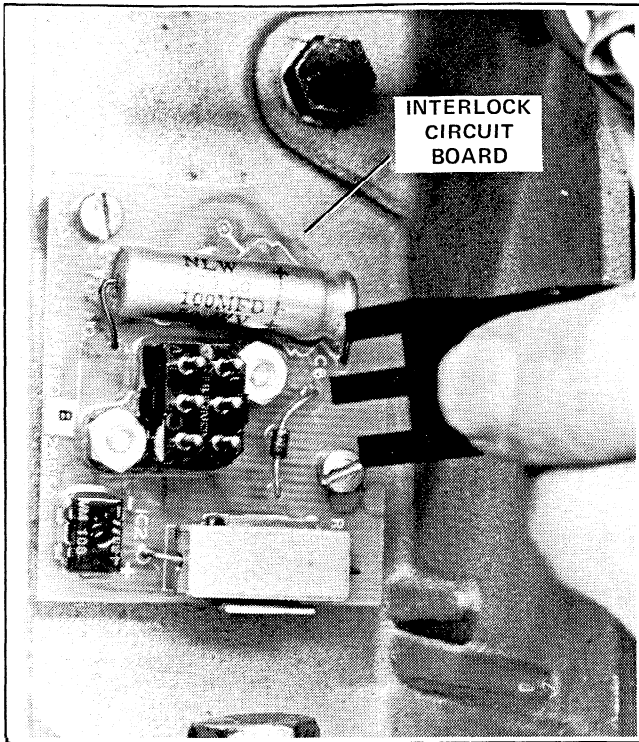

Figure 6-7. Removing Plug From Interlock Circuit Board
5. Remove the plug from the interlock circuit board (Figure 6-7). The circuit board can now be removed.